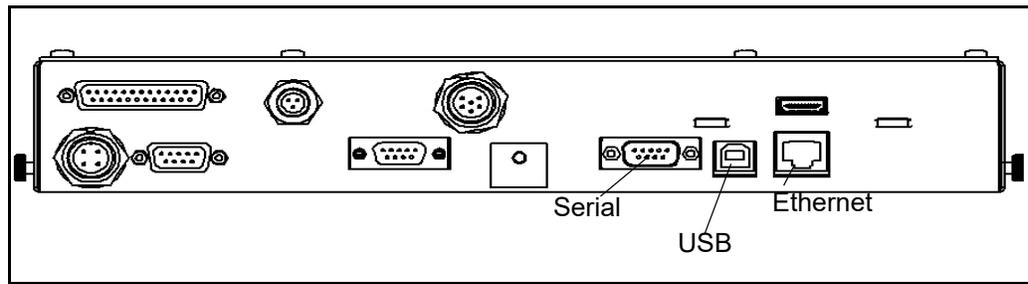

Figure 9
2. Connect the Ethernet cable (supplied) to the CubiScan 25’s Ethernet port, as shown in Figure 9.
1. Connect the USB cable to the CubiScan 25's USB port located on the controller box, as shown in Figure 9.
2. Connect the serial cable to the CubiScan 25's serial port, as shown in Figure 9.